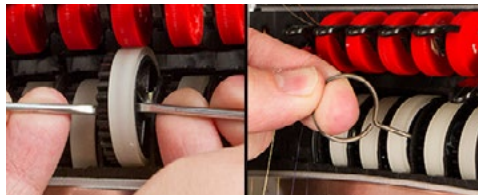

Figure 2 - Prying Thread Feeder Roller Loose
2. Using two thin bladed flat screw drivers, carefully pry the roller out of the assembly as shown in Figure 2 above until you can pull it out easily with your finger.